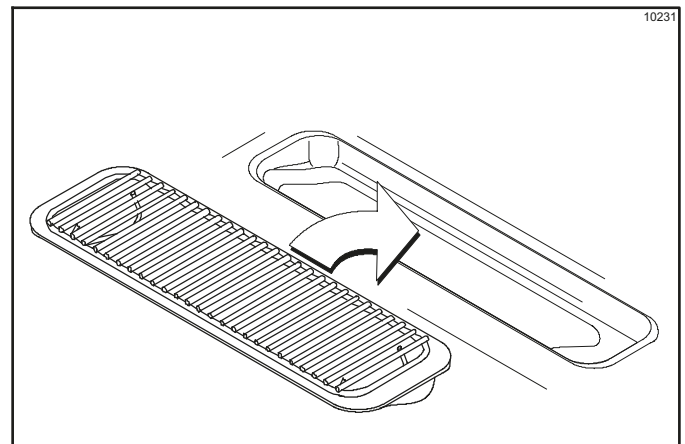

Figure 6-22
23. Install the front drip tray and splash shield under the door spout. (See Figure 6-22.)